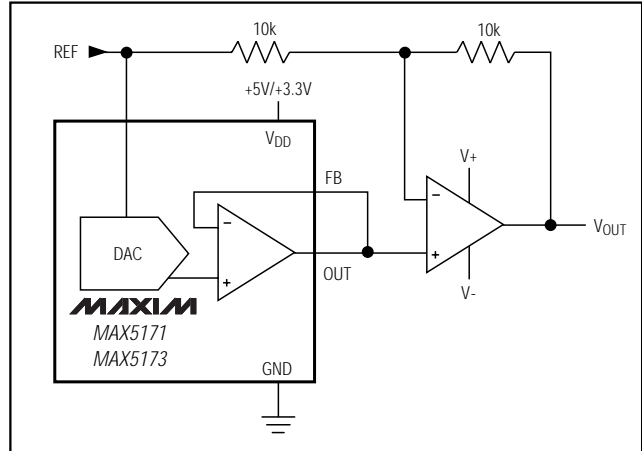

Figure 7. Bipolar Output Circuit
Figure 7 shows the MAX5171/MAX5173 configured for bipolar output operation. The output voltage is given by the following equation ( $\text{FB} = \text{OUT}$ ):
where  $N$  represents the numeric value of the DAC's binary input code and  $V_{\text{REF}}$  is the voltage of the external reference. Table 3 shows digital codes and the corresponding output voltage for Figure 7's circuit.
**Table 3. Bipolar Code Table (Circuit of Figure 7)**